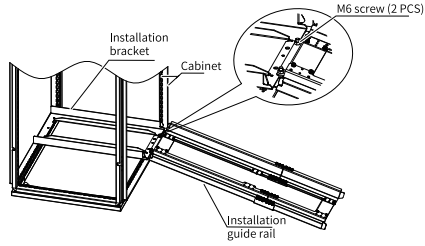

Figure 1-12 Mounting the guide rails to the cabinet
- a. Align the two round holes at the front end of the mounting rail with the screws of the mounting bracket, and then lock the guide rail to the cabinet with two M6 nuts, as shown in "Figure 1-12 " on page 26 .